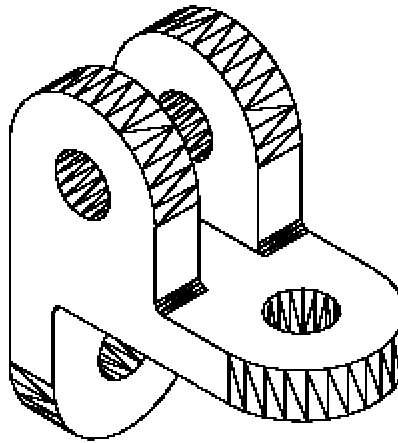

Figure 24-71 The final model for Example 3
12. The final model for Example 3 should look similar to the one shown in Figure 24-71.